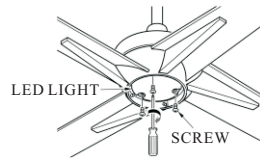

FIG.19
5. Screw back the 3 previously removed screws and tighten the light kit.(See fig.19)